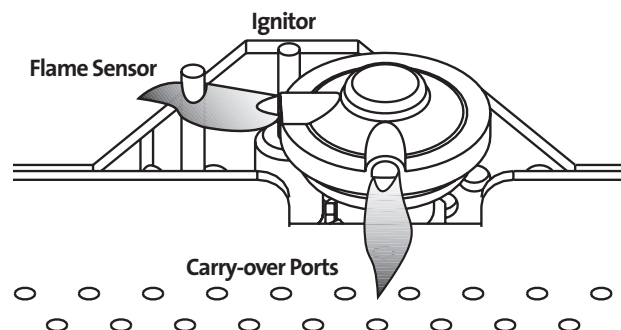

Figure 6.20. Correct Pilot flame pattern.
4. **PILOT FLAME:** The pilot flame should be steady -not lifting or floating. The flame should be blue in color around the pilot hood, with traces of yellow toward the outer edges. It is important that the pilot flame engulf the top 1/8" of the flame sensor. The pilot flame should project out of the pilot hood 1" from both ports extending to reach the burner plate ports. See fig. 6.20. The pilot flame can be tuned by turning the adjustment screw located on the front of the valve. See fig. 6.4.